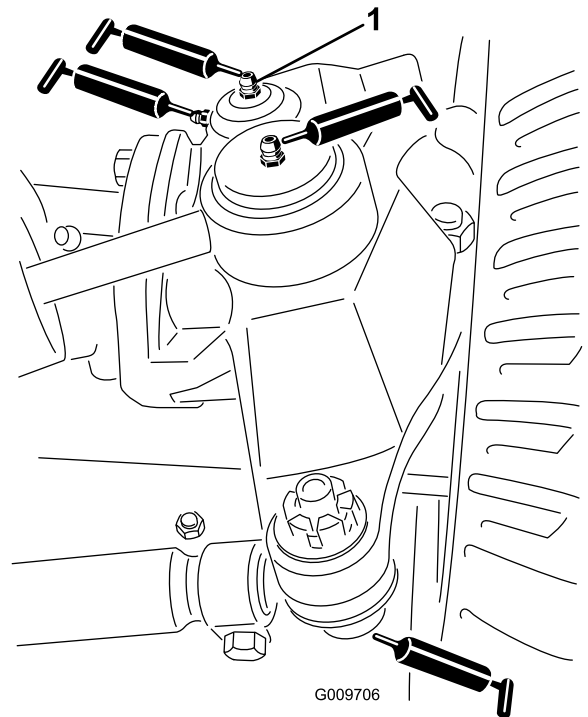

Figure 38
- Steering-cylinder ball joints (2) as shown in Figure 38
- Tie-rod ball joints (2) as shown in Figure 38
- Kingpin bushings (2) as shown in Figure 38